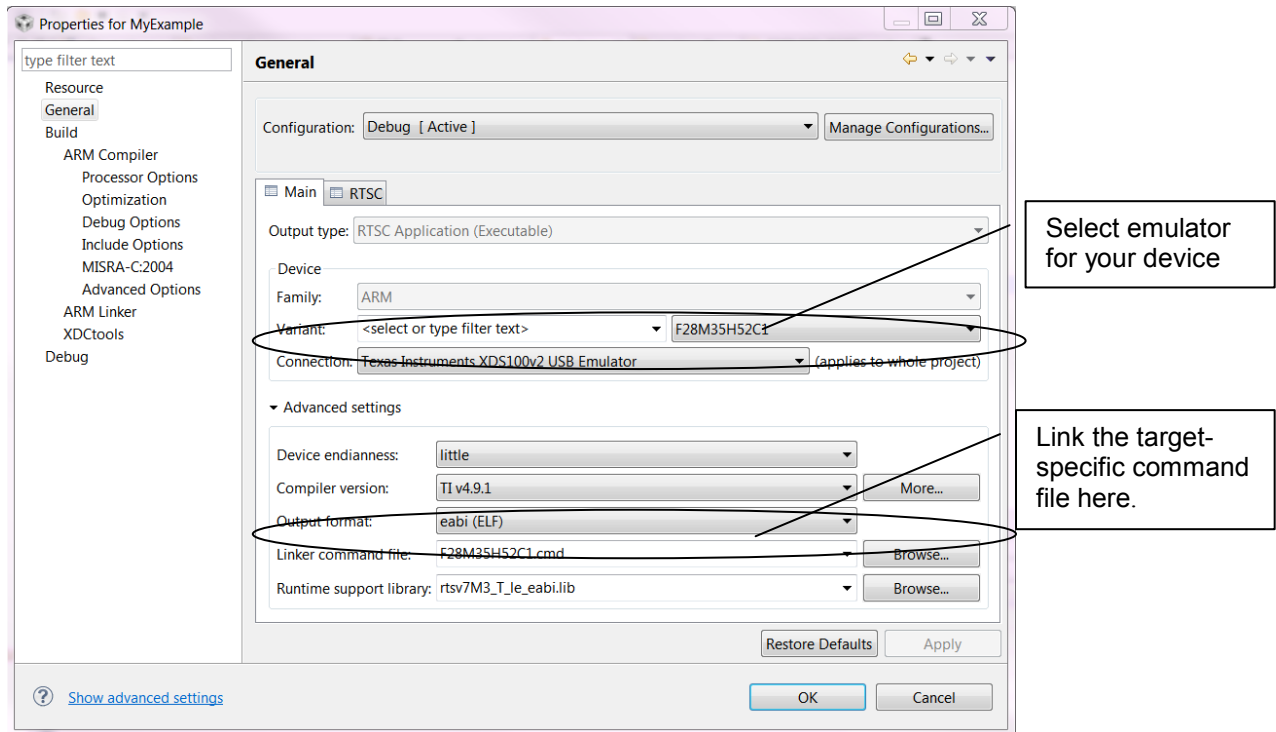

Figure 6. General Setting for the Project
2. Right-click the project name, select Properties, and click General in the left block to open the General settings page (see Figure 6).